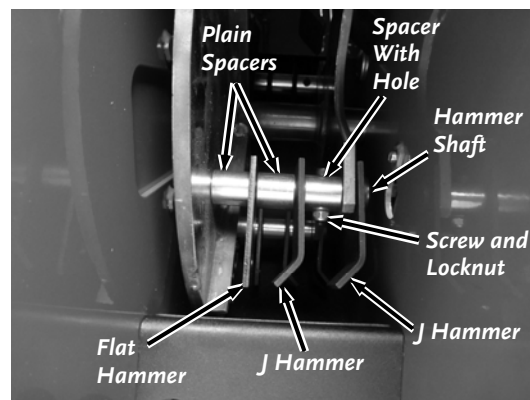
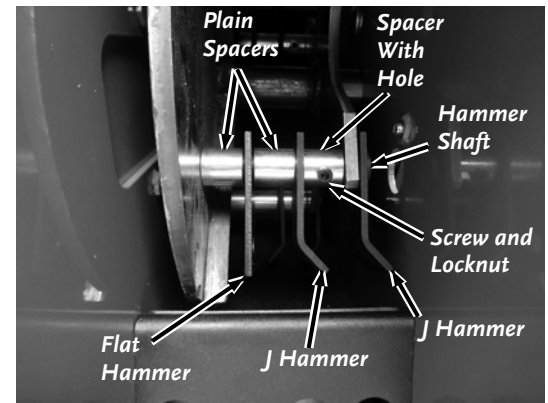

Figure 30
Figure 31
4. Align one of the Hammer Shafts with the Access Door opening (**Figure 30**). Carefully note the orientation of each Hammer on the Hammer Shaft you are working on.
7. Reinstall the parts, but with the orientation of the Hammers flipped to a clean cutting edge. If your Hammer Shaft assembly looked like **Figure 30** before then it should look like **Figure 31** after. Or vice versa.